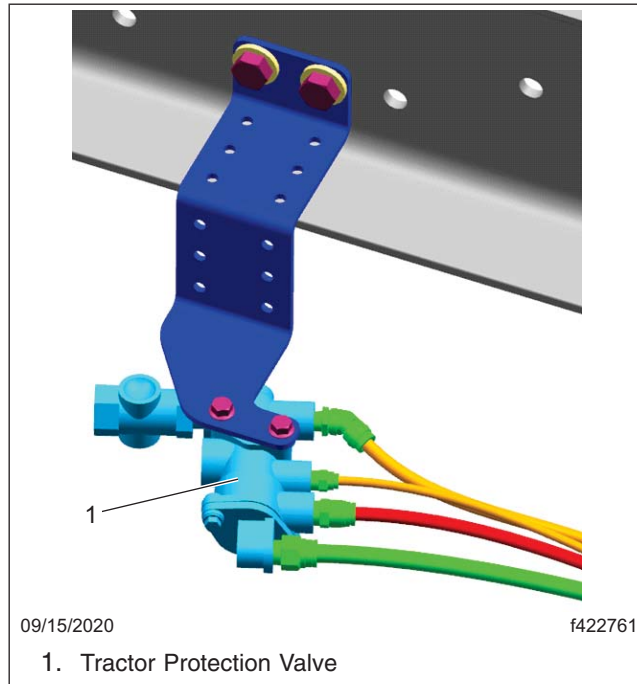

Fig. 24, Tractor Protection Valve Assembly
8. Assemble the new tractor protection valve assembly as shown in Fig. 24.
10. Mount the new tractor protection valve assembly as shown on the two drilled holes. See Fig. 24.